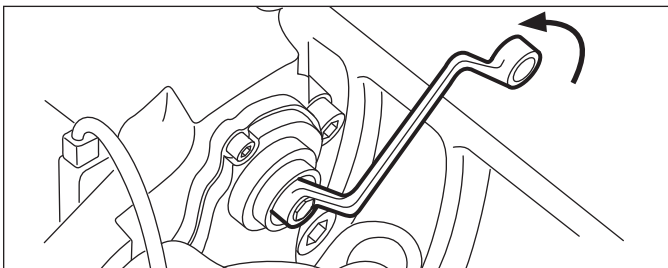

FIGURE 37 - BACKING OFF THE ADJUSTER FOR PAD REMOVAL
5.2.8 Use a 10 mm. six-point box wrench (See Figure 37) to turn the adjuster counterclockwise until sufficient space exists to remove the brake pads. A clicking noise occurs each time the adjuster turns.